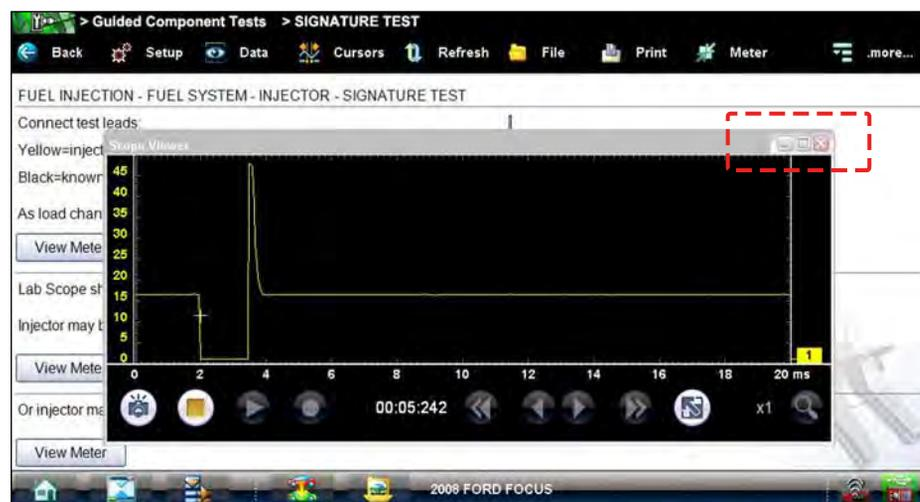

Figure 7-10 Sample meter view in a separate window
2. Select the **Meter** icon a second time and the meter opens as a separate window (Figure 7-10). This window can remain open if you switch to the Scan Module and can be accessed from the Windows toolbar at the bottom of the screen. You can also resize and reposition the meter window on the screen.